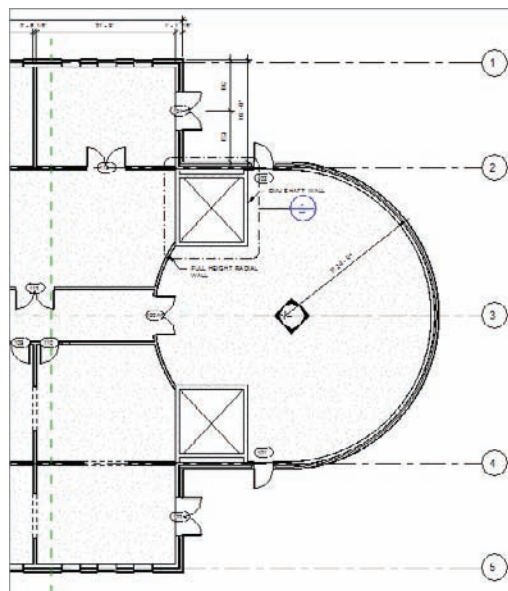

FIGURE 8.7 The completed horizontal grids
5. Add grids 4 and 5 to the exact opposite ends of the east wing (see Figure 8.7).